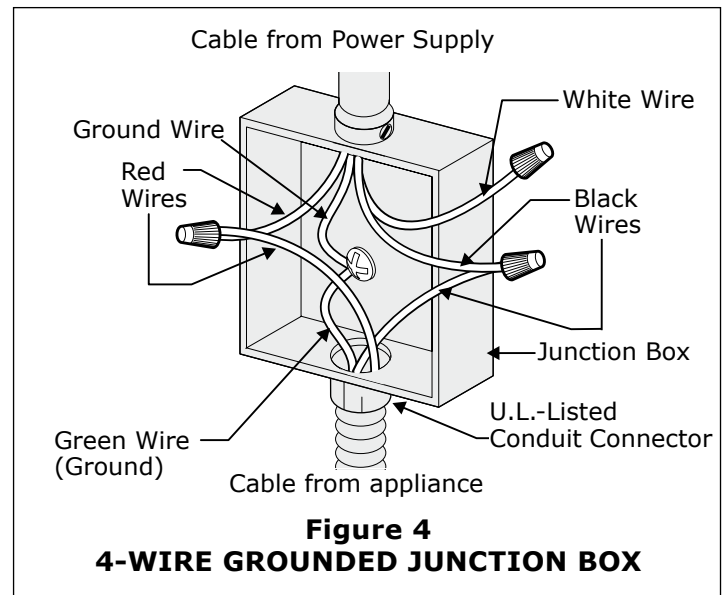

Figure 4
When grounding to the neutral (white) wire is prohibited, you must use a 4-wire power supply cable. See Figure 4. Failure to heed this warning may result in electrocution or other serious personal injury.
If cooktop is used in a new branch circuit installation (1996 NEC), mobile home, recreational vehicle, or where local codes do not permit grounding to the neutral (white) wire (see figure 4):
2. In the circuit breaker, fuse box or junction box, connect appliance and power supply cable wires as shown in figure 4.